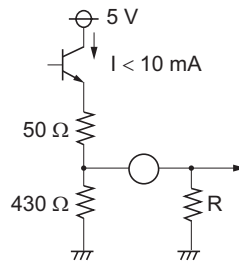

Figure 2
5. The terminal of R, G, B output pin (pin 27, 30, 35). It is possible to add a pull-up resistor according as drive ability. But set the value of resistor in order that the current is under 10 mA. Setting the value of R is more than 500Ω as shown in Figure 2.